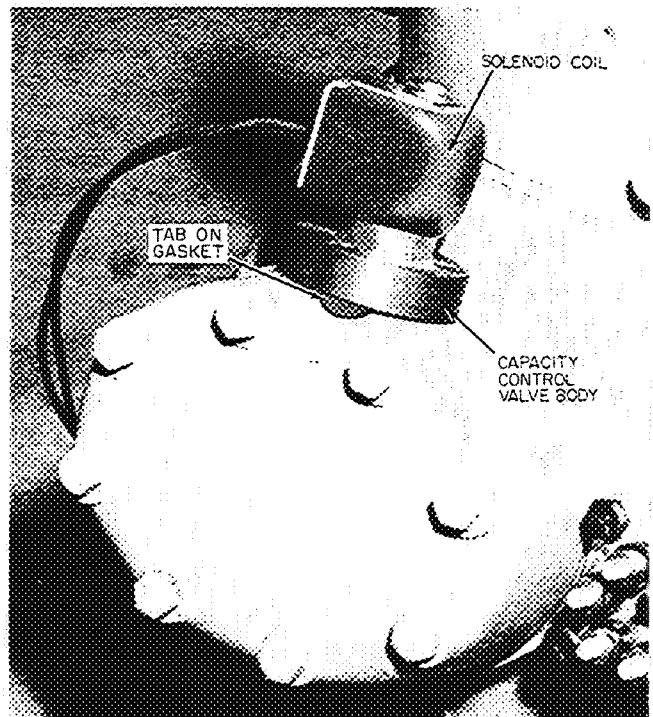

Fig. 1 – 06D Electric Capacity Control Valve
6. Wipe clean the walls of the head cavity and apply thin film of compressor oil. Carefully compress the bypass piston ring and insert the piston into the head cavity, being sure that the gasket does not shift. *The tab must be outward as shown in Fig. 1*